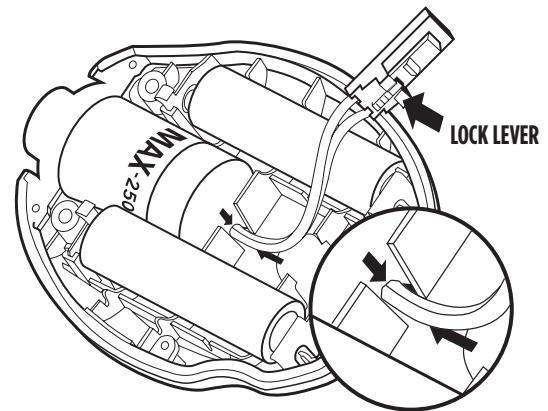

FIGURE 4
**HELPFUL HINT:** Be sure to orient the new sensor by aligning the red arrow on the sensor with the arrow in the back case. A small tab is located on the back case that is designed to engage the sensor and prevent it from rotating within the case. (FIGURE 4)